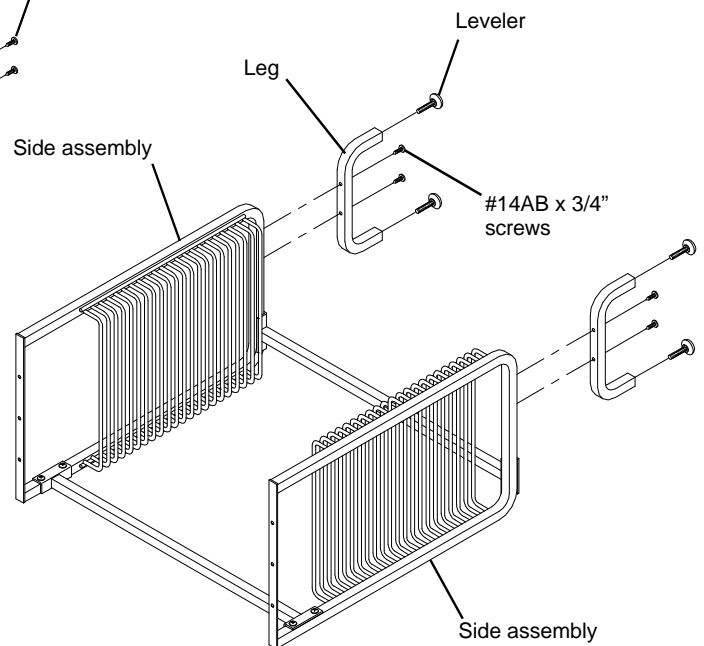

Figure 2
2. Attach the **Legs** (optional) to the Side Assemblies using four #14AB x 3/4" screws and then install the **Levelers** (optional) on each leg. See **Figure 2**.